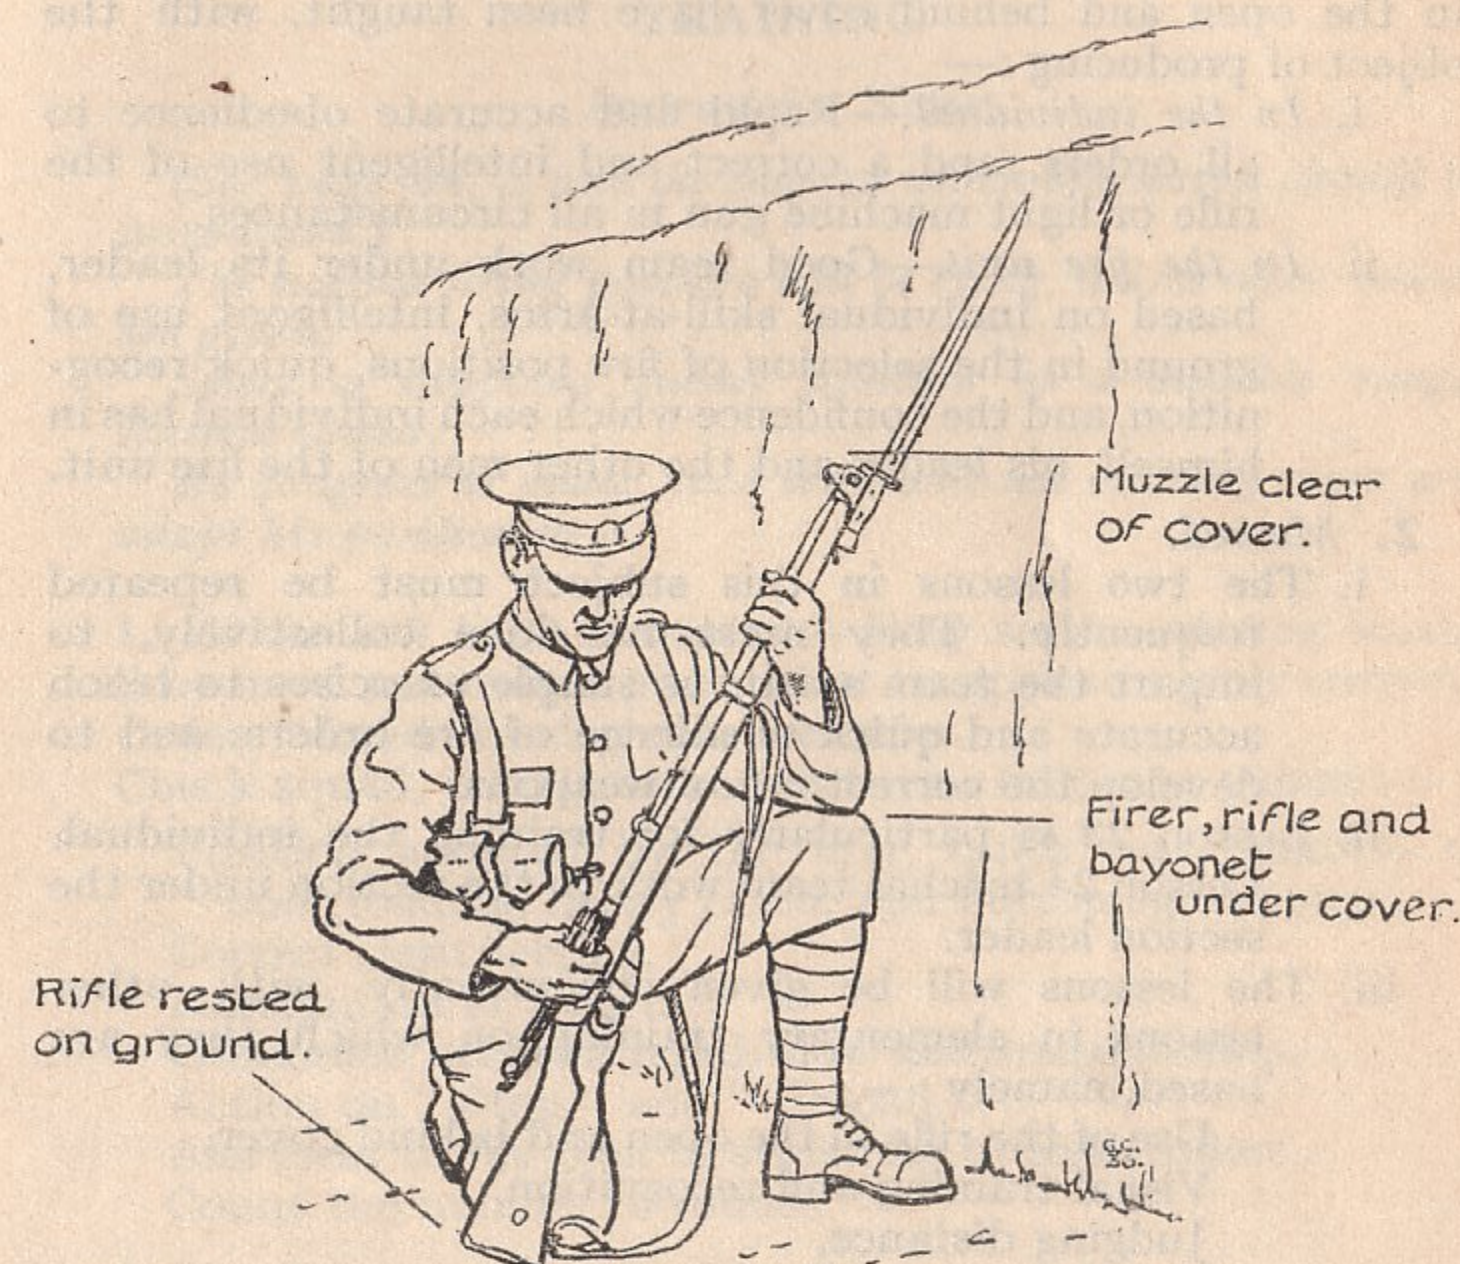

FIG. 32.
4. Explain method of loading with a further five rounds (see Fig. 32), as in kneeling position (Lesson 21).